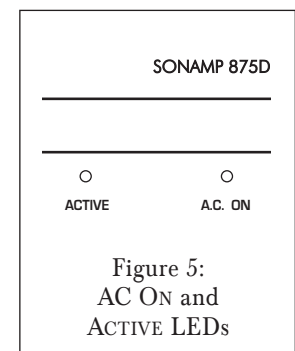

Figure 5:
A.C. ON LED (see Figure 5)
ACTIVE LED (see Figure 5)